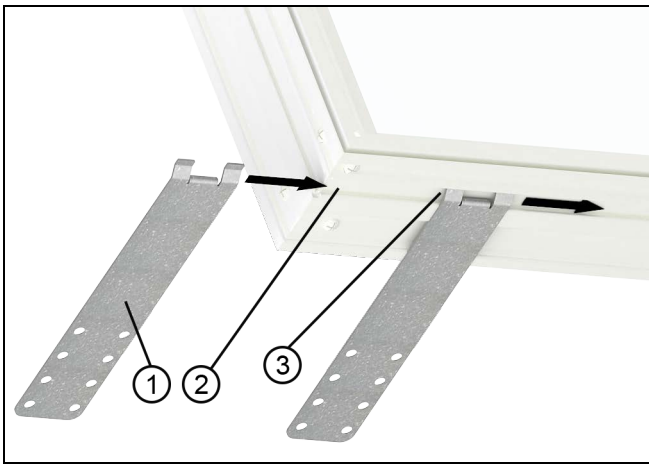

Figure 10
8. Slide flat sill structural brackets into T-slot channel at the sill. Insert enough brackets to ensure a bracket is within 6" of each corner and evenly spaced 12" apart along the sill. Final adjustment of bracket locations should be done once the unit is resting in the opening. See Figure 10.